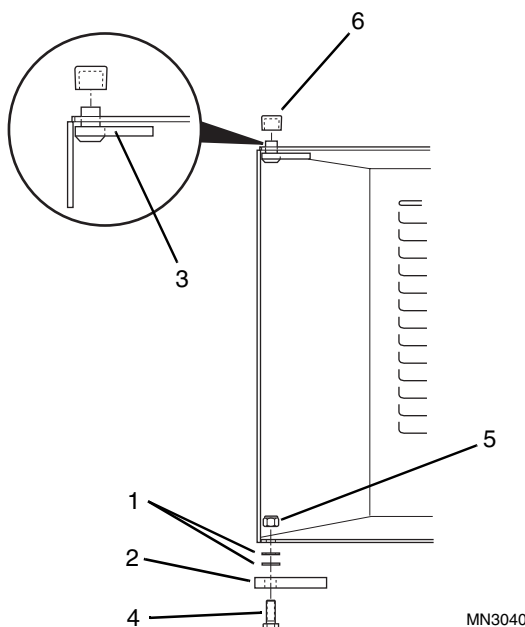

Figure 9-110 Rear Door Shimming
2. Using flat washers (Fig. 9-110, 1) as required, shim the door above the lower mount (2), to raise the top of the door off of the upper deck support (3). Install the capscrew (4), flat washers (1) as required, and new hex elastic locknut (5) and tighten securely. Install the plastic cap (6) on the upper pivot pin.